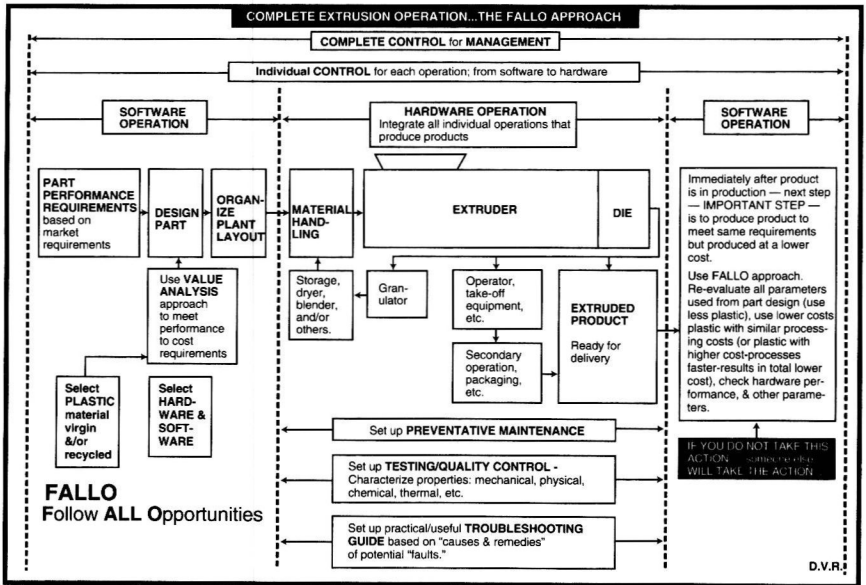
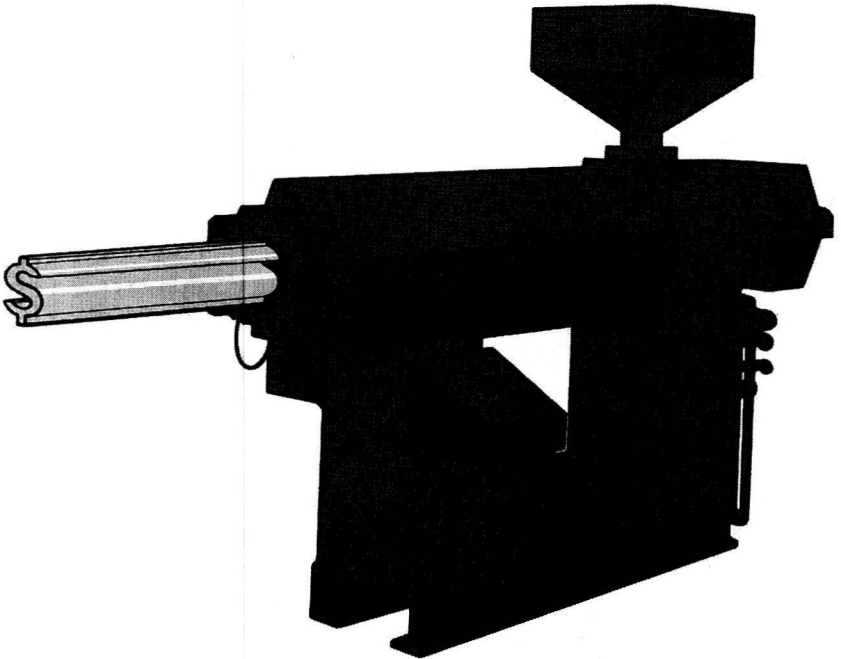

Figure 1.1 The FALLO approach.
Figure 1.2 Extruders provide products used worldwide with profits.
proper control of different operations. An example is shown in Fig. 1.1 where the block diagram pertains to any process system. The FALLO (Follow ALL Opportunities) approach makes one aware that many steps are involved in processing and all must be properly understood and coordinated [1–6]. Basically the FALLO approach consists of: (1) designing a product to meet performance and manufacturing requirements at the lowest cost; (2) specifying the proper plastic material(s) that meet product performance requirements after being processed; (3) specifying the complete equipment line by (a) designing the die ‘around’ the product, (b) putting the ‘proper performing’ extruder ‘around’ the die, (c) setting up auxiliary equipment (up-stream to down-stream) to ‘match’ the operation of the complete line, and (d) setting up the required ‘complete controls’ (such as testing, quality control, troubleshooting, maintenance, data recording, etc.) to produce ‘zero defects;’ and (4) purchasing and properly warehousing plastic materials. Using this type of approach leads to maximizing the product’s profitability (Fig. 1.2).